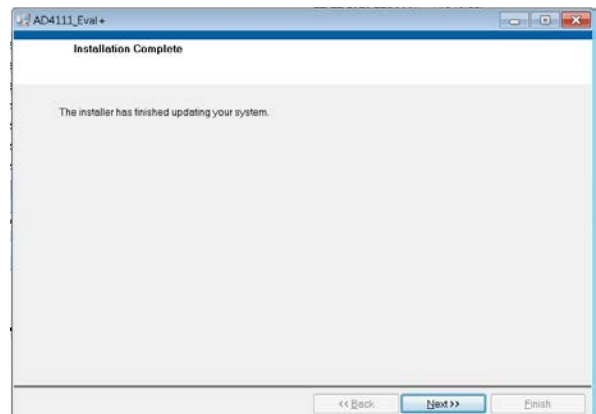

Figure 8. Indicating when the Installation is Complete
7. The message in Figure 8 appears when the installation is complete. Click **Next**.